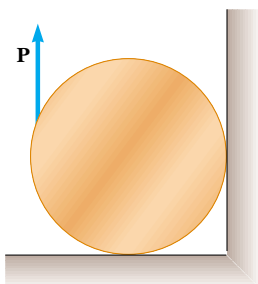

Figure P12.60
60. Figure P12.60 shows a vertical force applied tangentially to a uniform cylinder of weight F_g . The coefficient of static friction between the cylinder and all surfaces is 0.500. In terms of F_g , find the maximum force \mathbf{P} that can be applied that does not cause the cylinder to rotate. (*Hint:* When the cylinder is on the verge of slipping, both friction forces are at their maximum values. Why?)